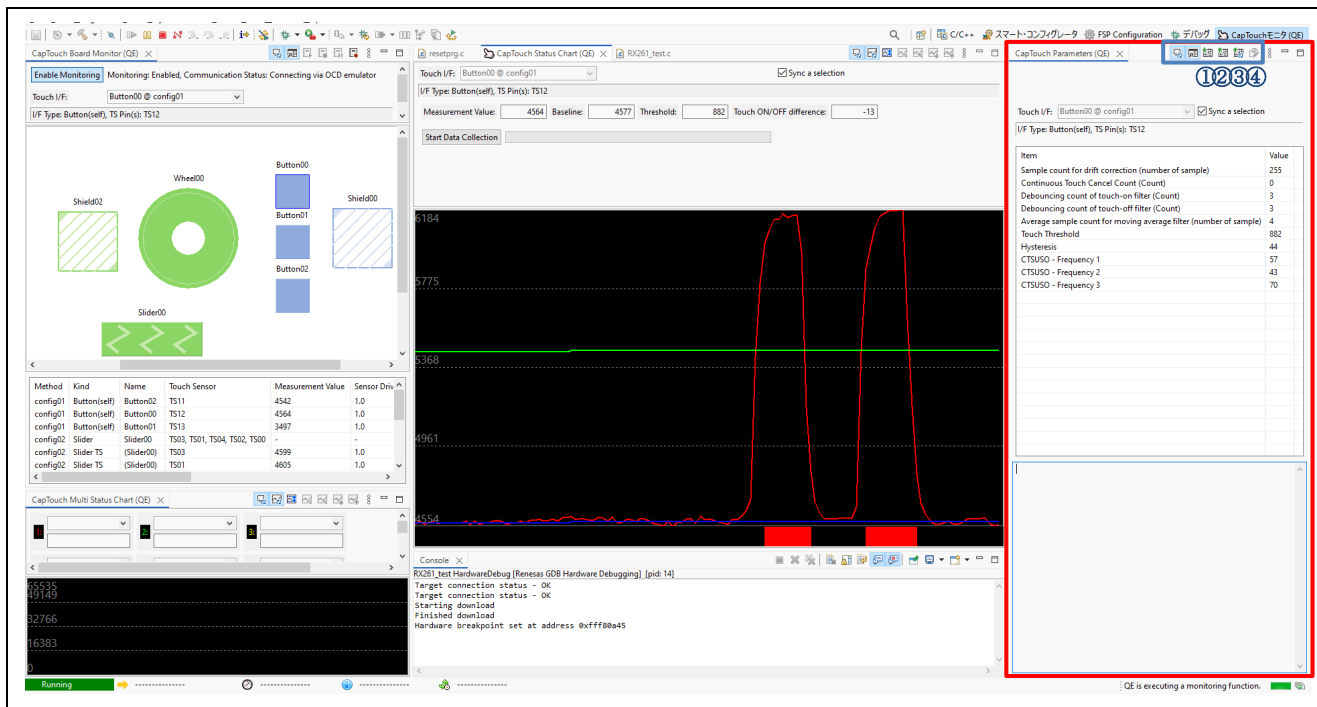

Figure 1-3 Manual Tuning with QE for Capacitive Touch
For Manual tuning, use the "CapTouch Parameters (QE)" in QE for Capacitive Touch (in red box in Figure 1-3). You can change the parameter and check the operation after adjusting it from the "CapTouch Status Chart (QE)" in real time. Parameters adjusted in this view can also be reflected in the source file. Please refer to Table 1-2 for explanations of the functions of the "CapTouch Parameters (QE)" tool bar (in the blue frame in Figure 1-3) used when performing manual tuning. Parameters can be read and written to the application via the CapTouch Parameter icons.